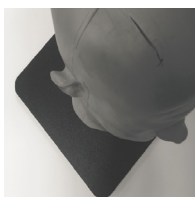

Figure 2
The AURA™ ICP Monitoring Kit is provided sterile and is sterilized by ethylene oxidation. This kit is part of the AURA™ Intracranial Monitoring System (Figure 2) whose function is to determine safely, quickly, and accurately the level and change in ICP.
- Make the necessary incision at Kocher's point or other desired location (Figure 2).